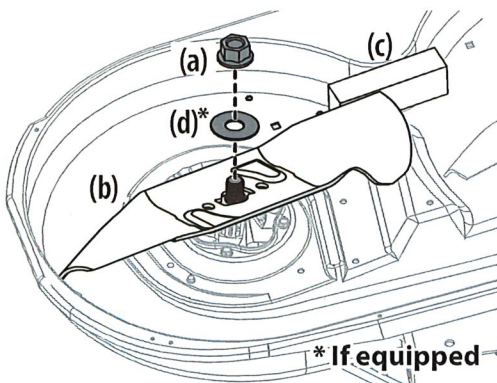

Figure 41
2. Use a 15/16" wrench to hold the hex nut on top of the spindle assembly when loosening the hex nut (a) and washer (d)* securing the blade (b). A block of wood (c) may be placed between the deck housing and the cutting edge of the blade (b) to help in breaking loose the hex nut (a) and washer (d)*. See Figure 41.
3. When re-installing the blades, be sure of the following (see Figure 41):